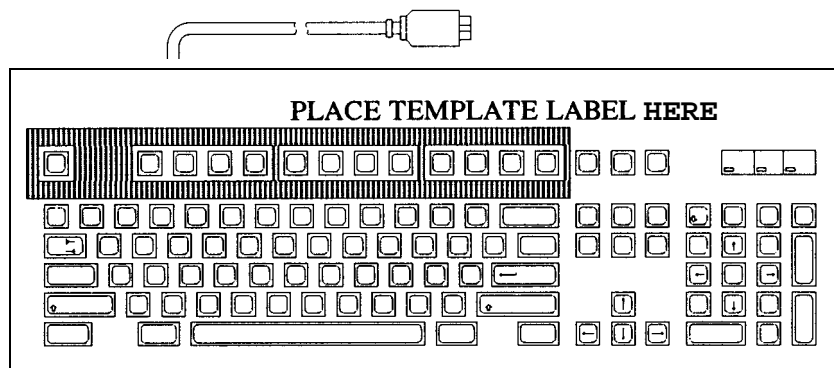

Figure 1 Keyboard Label
14. Clean the keyboard surface to remove dirt and dust. Peel the backing off the Keyboard Label (0682-1 109-01) and place the label around the Function keys as shown in Figure 1.